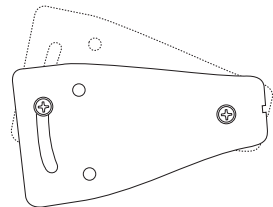

Figure 10. Adjustable Mounting Pattern
4. **Adjustable Mounting Pattern Only** – Refer to Figure 10. Adjust the angle of the base and tighten mounting hardware. If the watertight mounting plate is installed, remove the base, adjust the mounting plate, and reinstall the base.